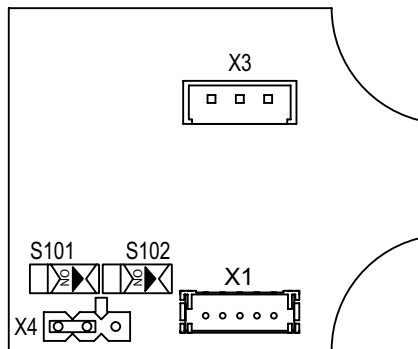

Fig. 21: Processor BIS L-409-... overview
- IO-Link mode, jumper setting as shown in Fig. 21 (factory default setting)